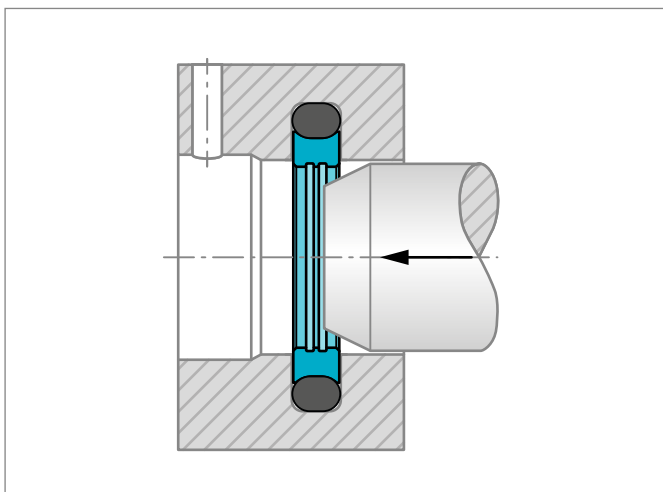

Figure 166: Calibration of installed Turcon® Roto Glyd Ring®
- 5) Calibrate the seal (see Figure 166).